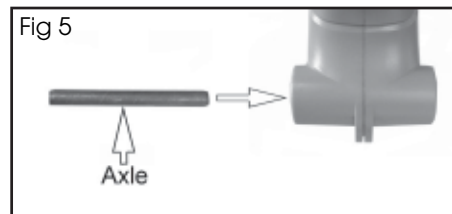

Fig 5
2. Insert the axle into the body of the chainsaw sharpener. Fig 5.